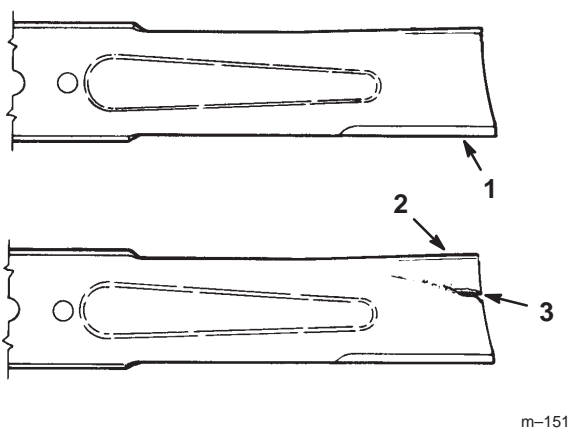

Figure 16
1. Inspect the cutting edges (Fig 16). If the edges are not sharp or have nicks, remove and sharpen the blades. Refer to Sharpening the Blades on page 38.
2. Inspect the blades, especially the curved area (Fig. 16). If you notice any damage, wear, or a slot forming in this area (item 3 in Fig. 16), immediately install a new blade.